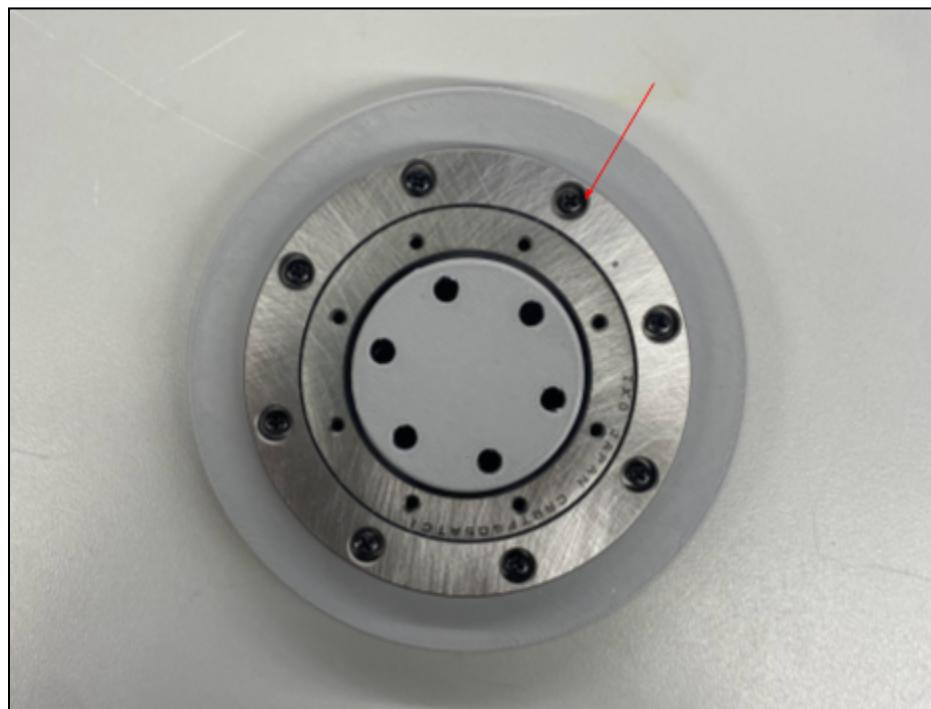

Figure 37: J4 Mushroom Cap to J4 Bearing
- Secure the bearing by inserting eight M2.5 x 6mm screws into the counterbored holes, fastening them into the heat-set inserts within the J4 Mushroom Cap. See Figure 37.